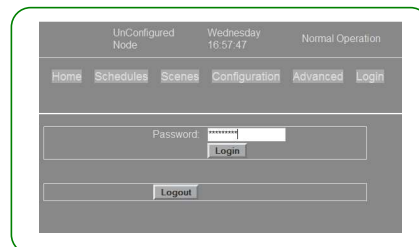

Figure 2: Login Page
2. On the login page enter the installer password which will give you installer rights and allow you to change the configuration settings. By default this password is **installer** (see figure 2).